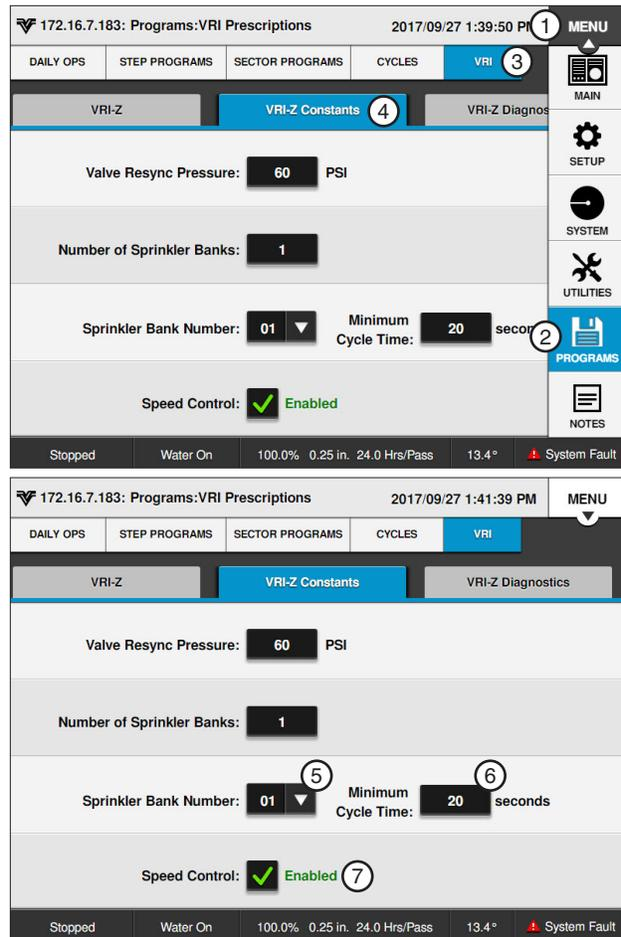

Figure 166-1 1. Menu 5. Sprinkler Bank Number
1. Push **Menu**, **Programs**, **VRI** and **VRI-Z Constants** to display the VRI-Z Constants screen. Refer to Figure 166-1.
3. Select the **Min Cycle Time (seconds)** field and enter the minimum cycle time value using the numeric keypad. The range is 1-999 seconds. The default is 20 seconds. Refer to Figure 166-1.